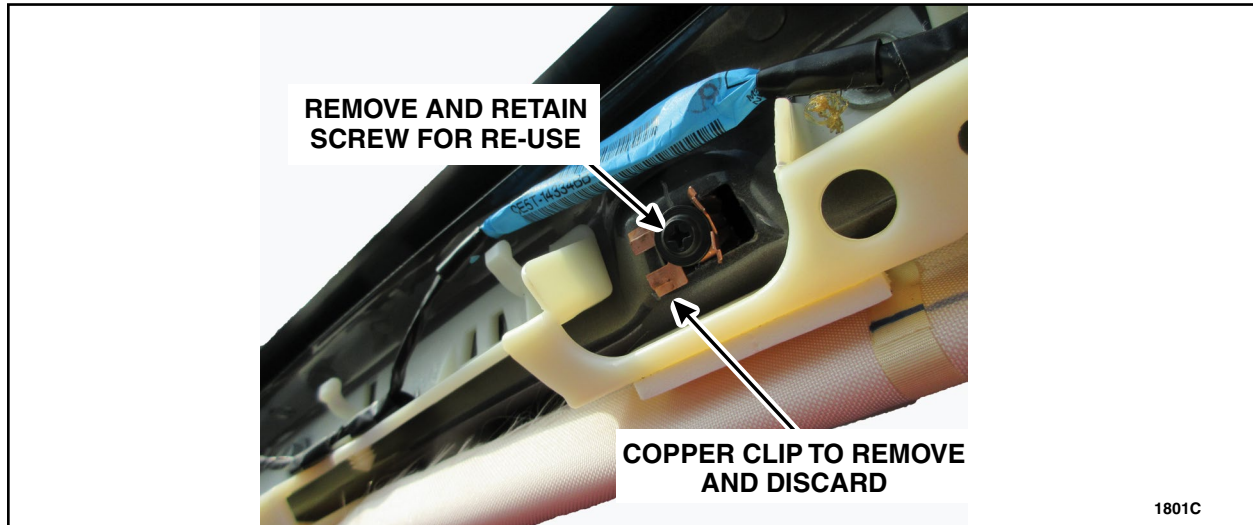

FIGURE 3
3. Remove and discard the top A-Pillar clip from the body. See Figure 3.